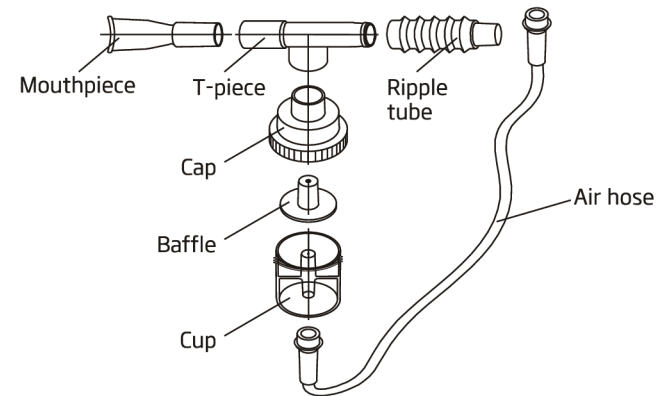

Figure 9
- ▶ Pull out the air hose, pull the mouthpiece, downward pull the nebulizing cup's cap, empty remained medicinal liquid in the nebulizing cup, then wash the air hose, mouthpiece, nebulizing cup's cap, nebulizing baffle, nebulizing cup, ripple tube, T-piece, etc , with pure water or immerge them in warm water for about 15 minutes(Figure 9). In order to wash them properly, you may add some vinegar in water.